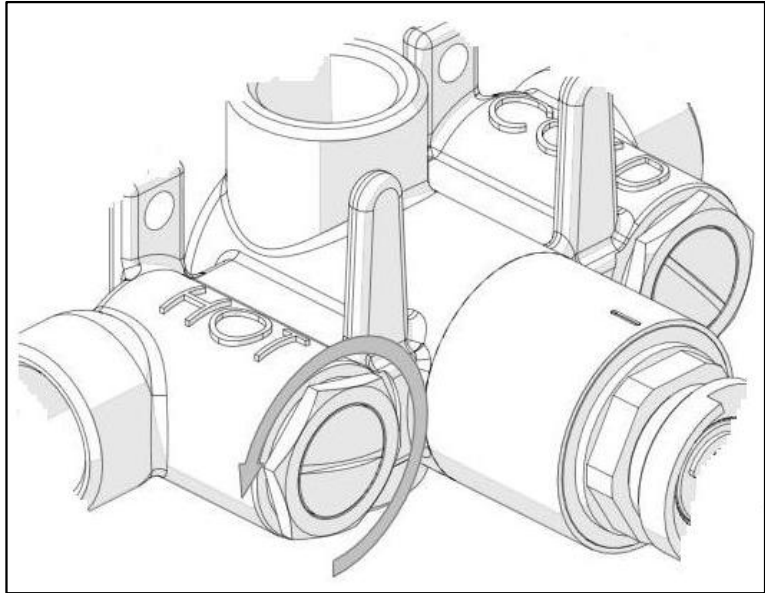

Fig. 5
- 4) Remove filter housing by unscrewing counterclockwise with spanner 27 mm (Fig. 5)